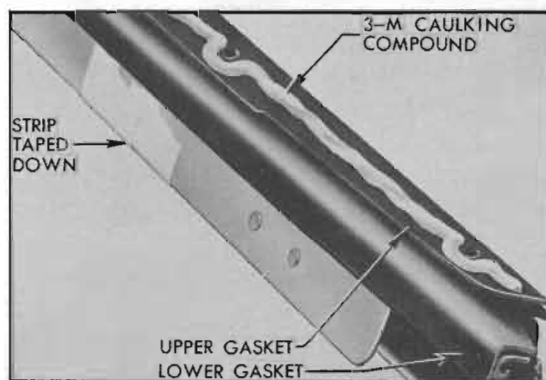

Figure 13-33—Sealing Strip and Gaskets
4. Tape the hinged, "flipper" strip down in the closed position. See figure 13-33. Apply a light uniform coating of 3-M Weatherstrip Adhesive to the top surface of sealing strip assembly, being careful to keep adhesive out of the screw holes and hinge section.
and around outer edges of screw holes on top surface of upper gasket. See figure 13-33.